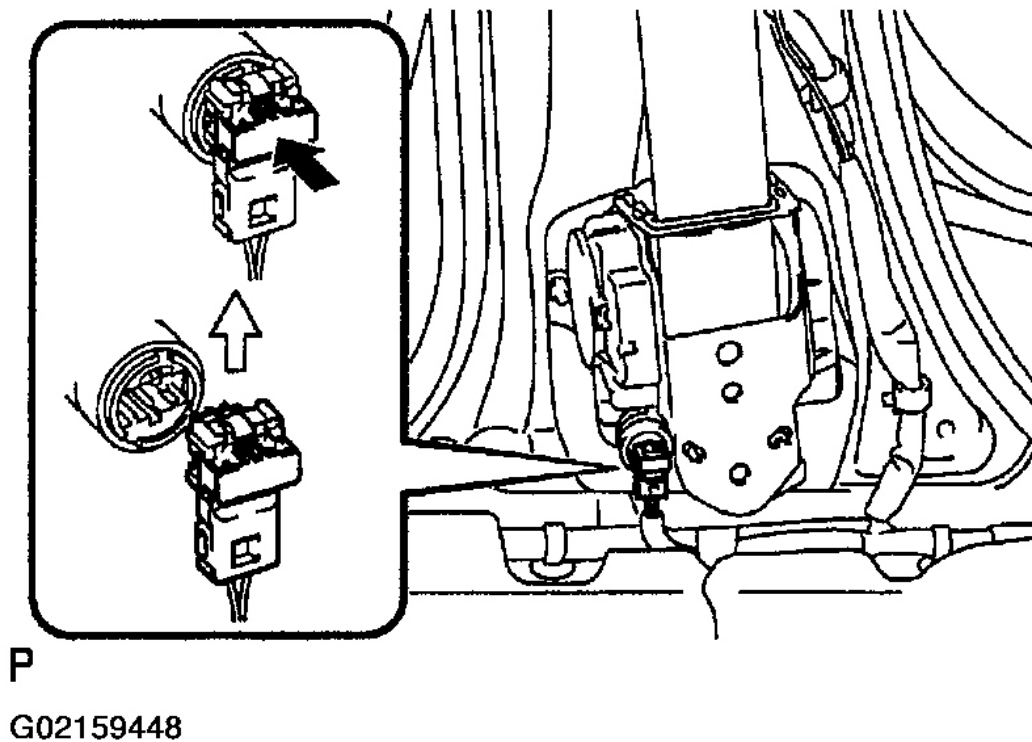

Fig. 21: Connecting Pretensioner Connector
2. Connect the pretensioner connector as shown in **Fig. 21** .